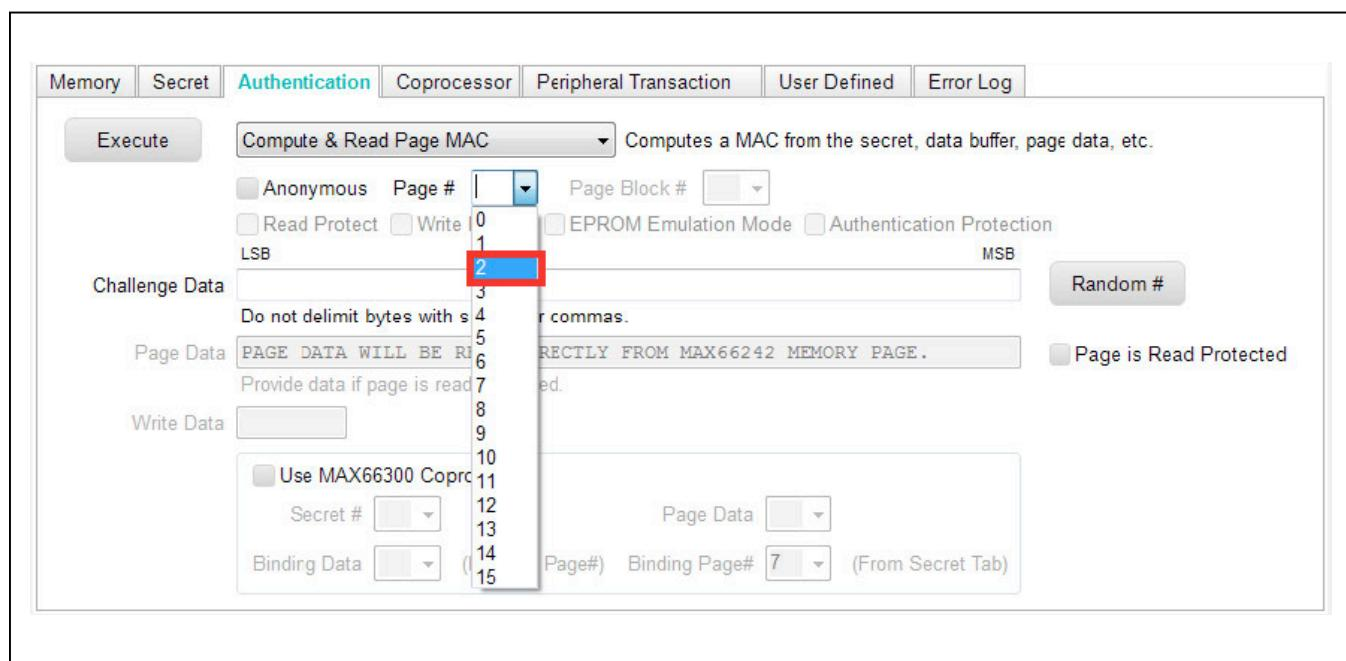

Figure 32. Page # Select
- 2) Select page ‘2’ from the **Page #** drop-down box. This is the location of the memory page to be read and authenticated in the MAX66242. The **Compute & Read Page MAC** command is selected by default so this does not need to be set (Figure 32).